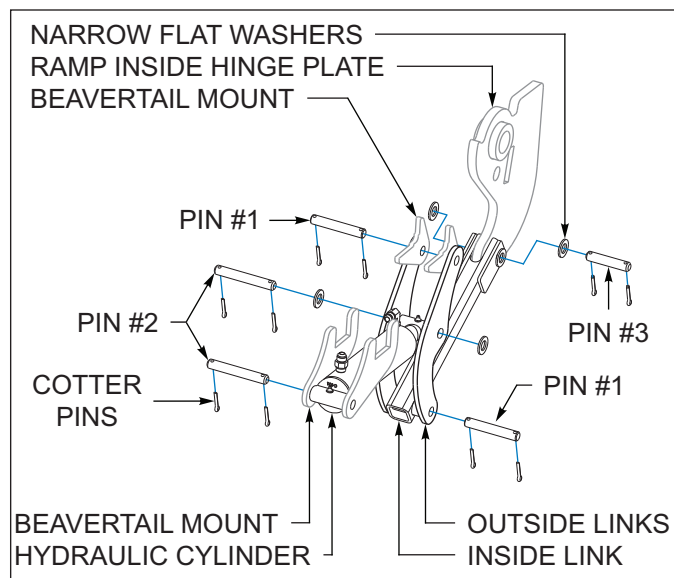

Figure 5-23: Beavertail Hydraulic Cylinder
7. Loosen two hydraulic hoses enough from the cylinder fittings to bleed off any residual pressure remaining in the hoses. See *Figure 5-23*.
10. Remove two cotter pins and two narrow flat washers from the top pivot pin that secures the inside link to the ramp inside hinge plate. See *Figure 5-23*.
2. Align the two-outside links to the beavertail mount. **See Figure 5-23.**